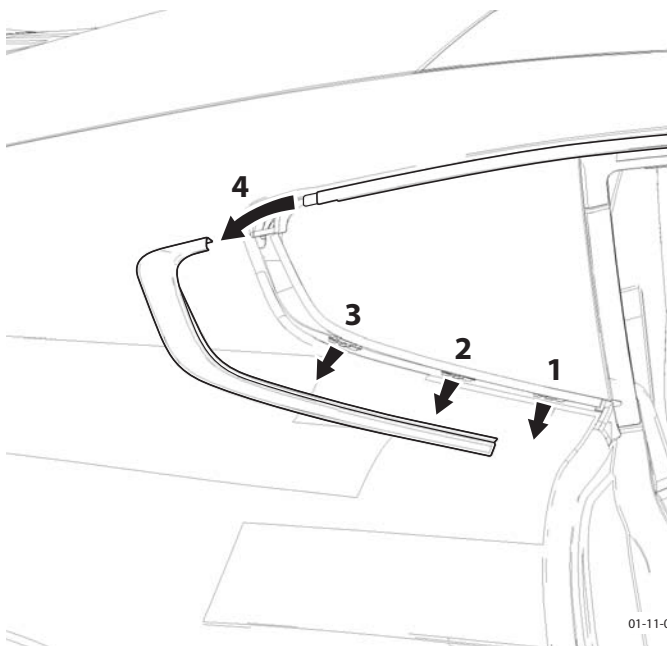

Figure 2
- Remove the lower finisher around the fixed quarter glass. Pull items 1, 2 and 3 and slide item 4 (see Fig 2).